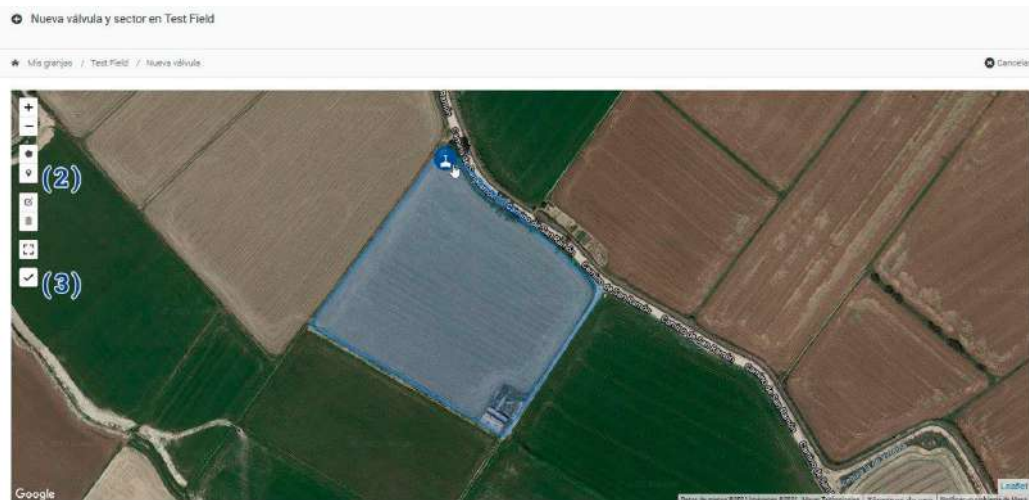

Figure 18 Valve location
(2) Press the button  and mark in the map the location of the valve, see Figure 18.